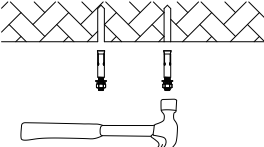

Figure 2-2
- 2.Use a hammer to put the expansion screws into the holes (Figure 2-2).